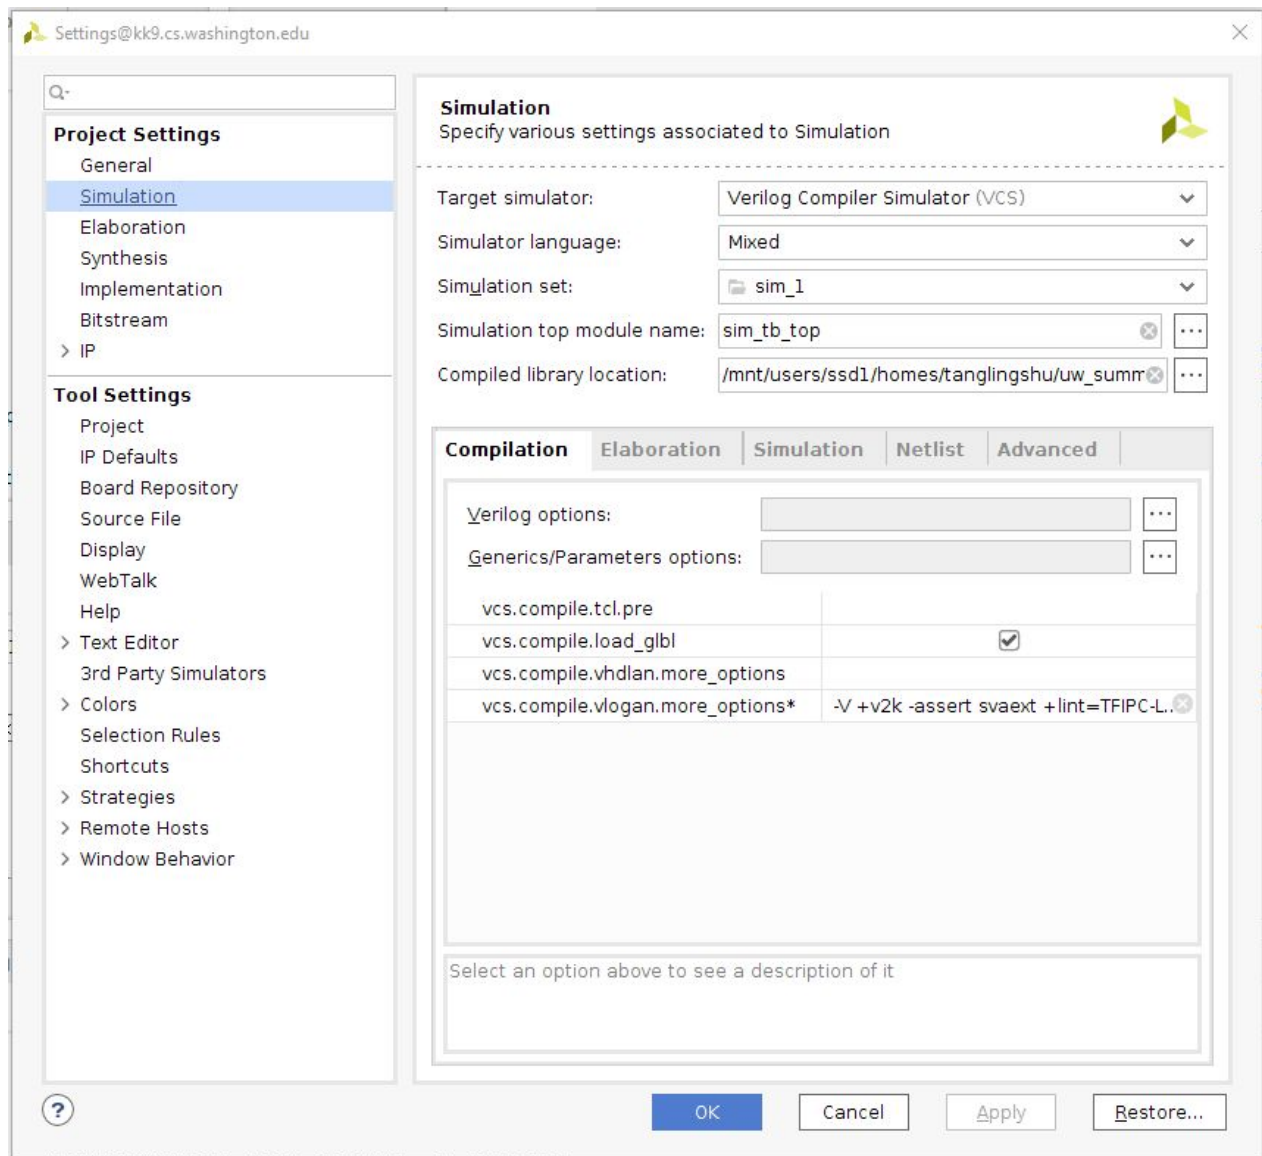

Fig. 9 Simulation settings window
- 5) Fig. 9 shows all the tabs in the simulation settings window